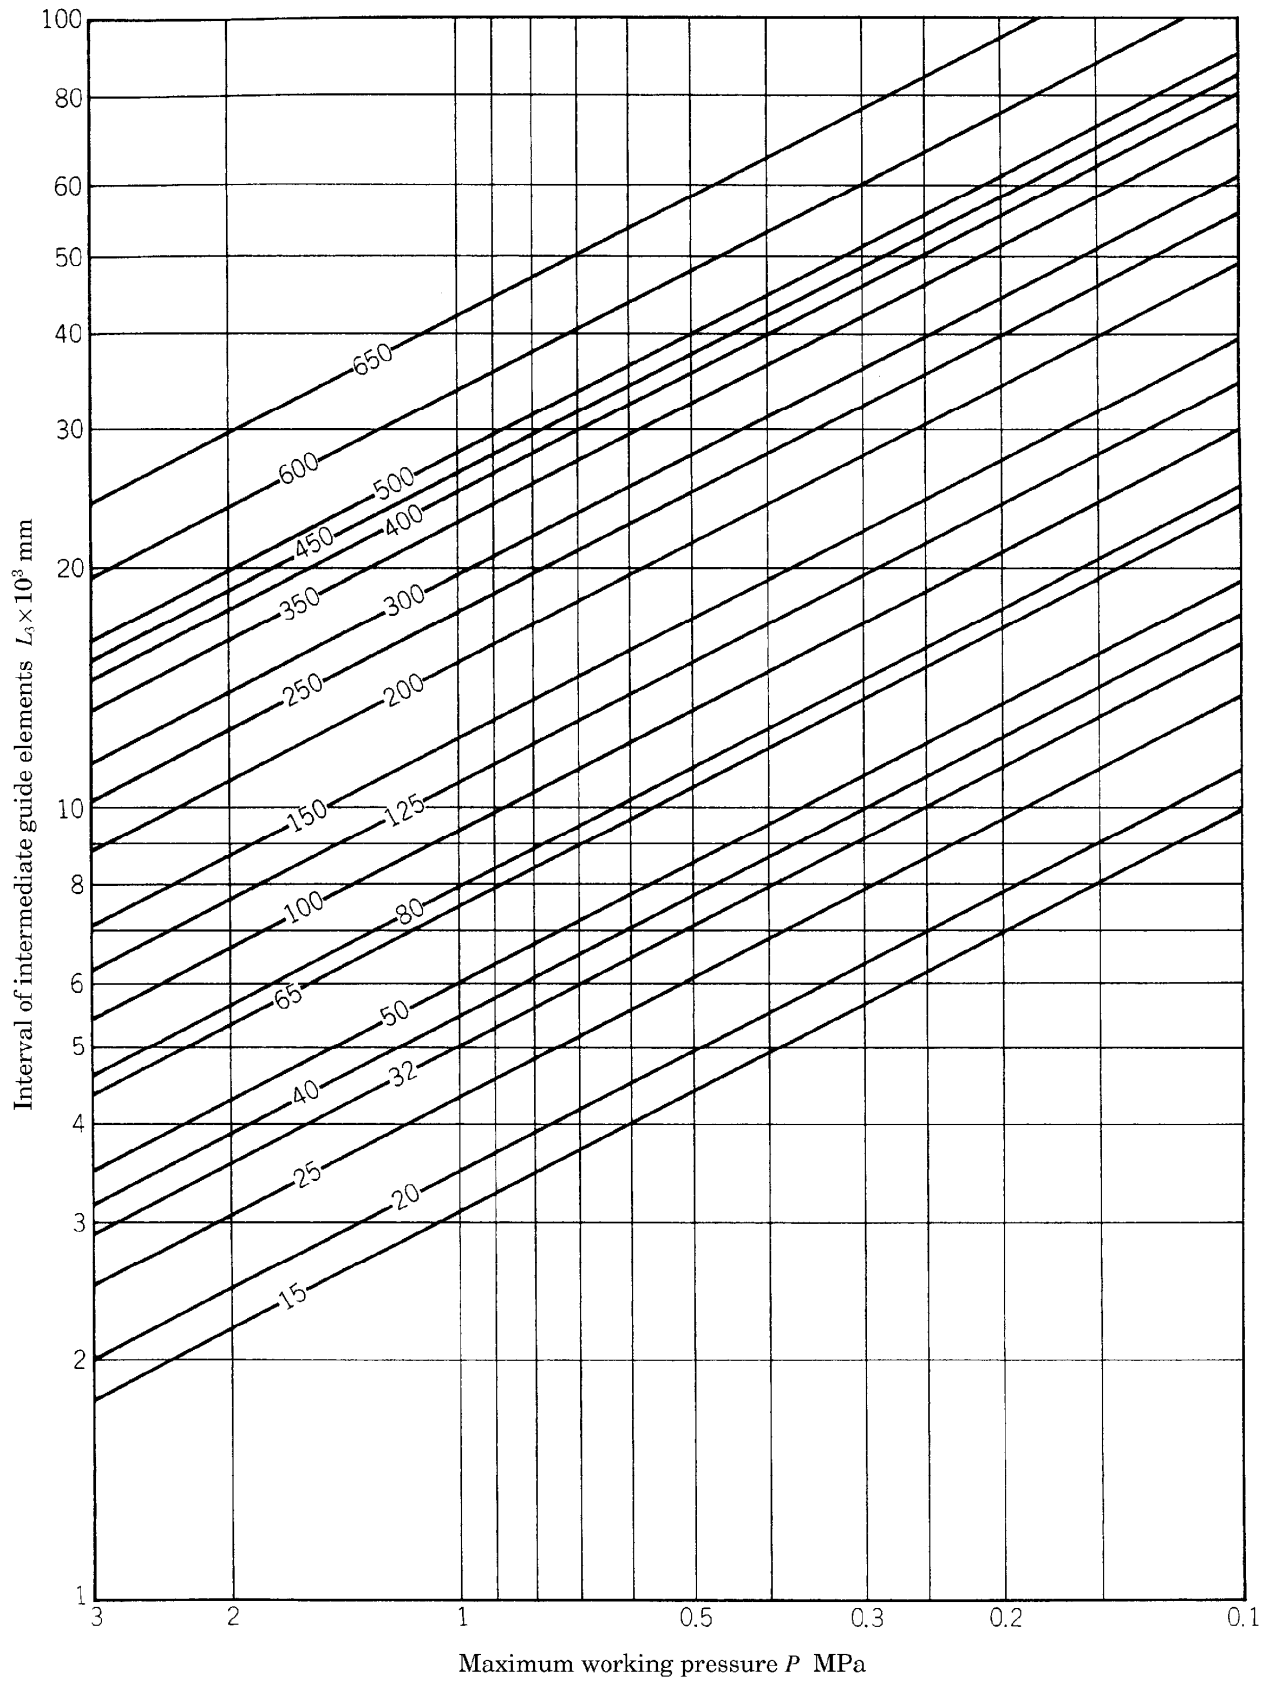

Fig.2 Maximum interval of intermediate guide elements according to the nominal pipe diameters
As to the pipings using carbon steel pipes for pressure pipings, when the expansion joints only for axial movement are used, the intervals of intermediate guide elements may be obtained from figure 2 instead of the calculation by formula (H).